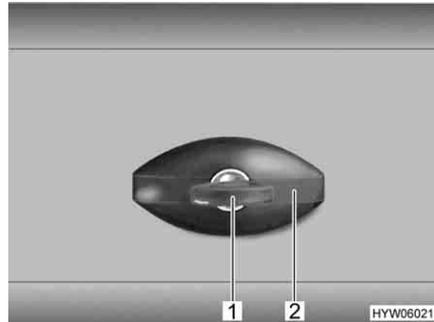

Fig. 63 Flap lock, elliptical-shaped, closed
- Insert key into locking cylinder (Fig. 63,1) and turn a quarter turn in an anti-clockwise direction. The lock handle (Fig. 63,2) snaps out.